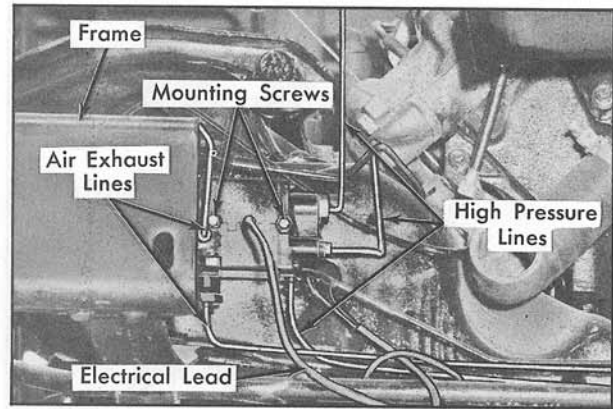

Fig. 4-18 Control Solenoid Connections
4. Disconnect accumulator tank air line at top left side of control solenoid, Fig. 4-18.